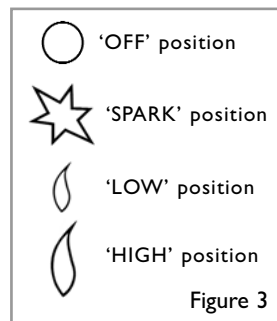

Figure 3
- **Meridiana and Merrion models** : The control knob is located on the lower right hand side of the outer case. It is of a spherical design and is marked as shown in figure 3.